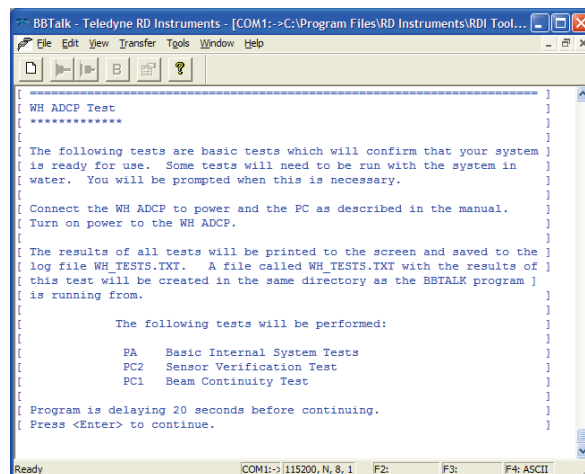

Figure 10. Running a Script File to Test the ADCP
- Follow the prompts on the screen (see Figure 10).